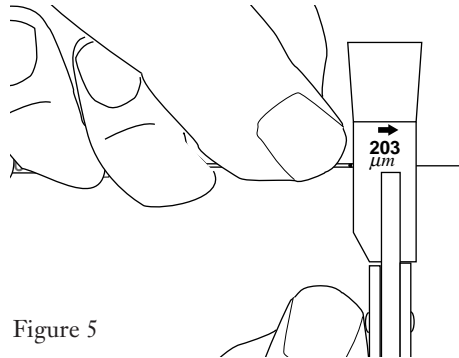

Figure 5
**5.2** Use the 203 $\mu$ m No-Nik stripping tool to remove the tight-buffered coating in 6-8 mm (1/4 to 5/16-inch) increments to the desired length (Figure 5). Pull the coating off with a straight, smooth motion. Note the arrow on the tool indicating the stripping direction. *Clean the coating from the tool after each pass.*